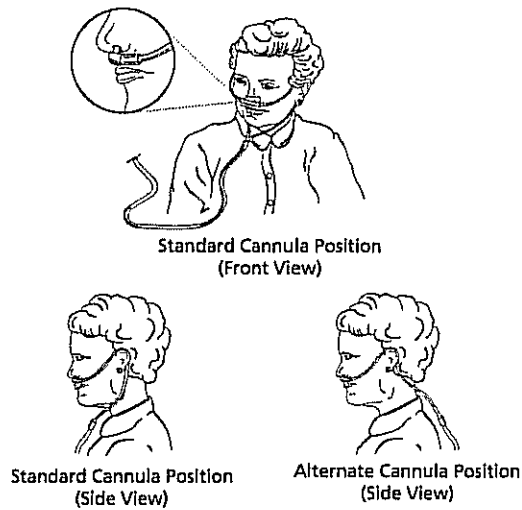

Figure 7: Cannula placement
3. With the tips of the cannula and lip rest pointing downward and toward you, place the two tips into your nostrils. Run the tubing over your ears and then slide the sleeve up under your chin until the cannula feels comfortable (Figure 7). Then breathe normally.